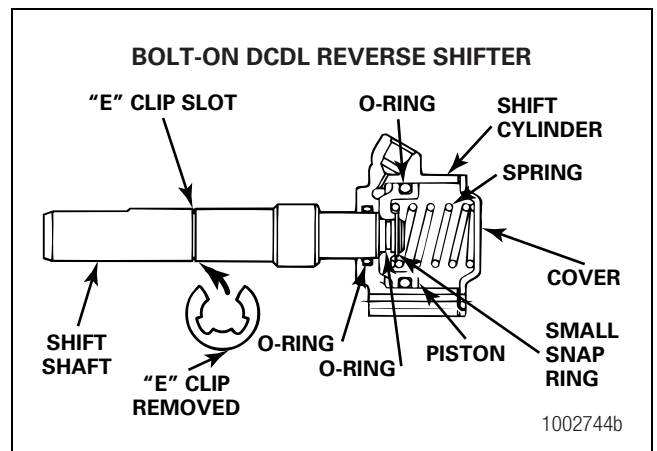

Figure 3.40
2. Remove the two capscrews and washers that fasten the cover to the shift cylinder. Remove the cover and spring. Figure 3.40.